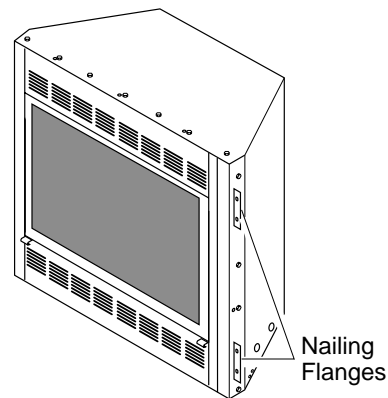

Figure 31 - Location of Nailing Flanges
7. Break off nailing flanges (see Figure 31) with hammer or pliers.